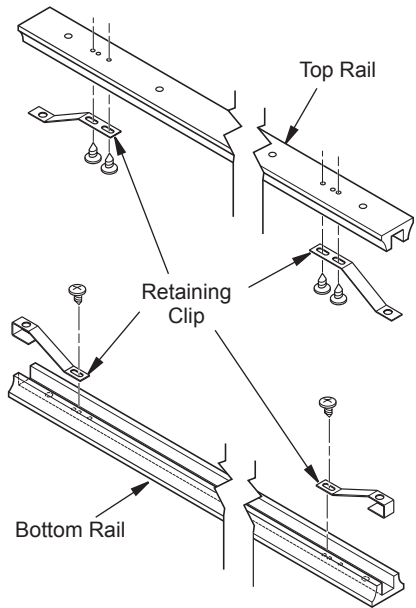

Figure 24 - Mounting Door Retaining Clips
6. Secure mounting clips to top and bottom rails (see Figure 24).